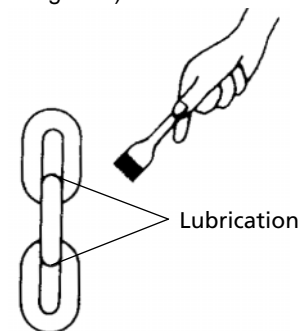

Figure 2 - Chain Lubrication
2. Lubricate the load chain along with whole length with machine oil (See Figure 2).